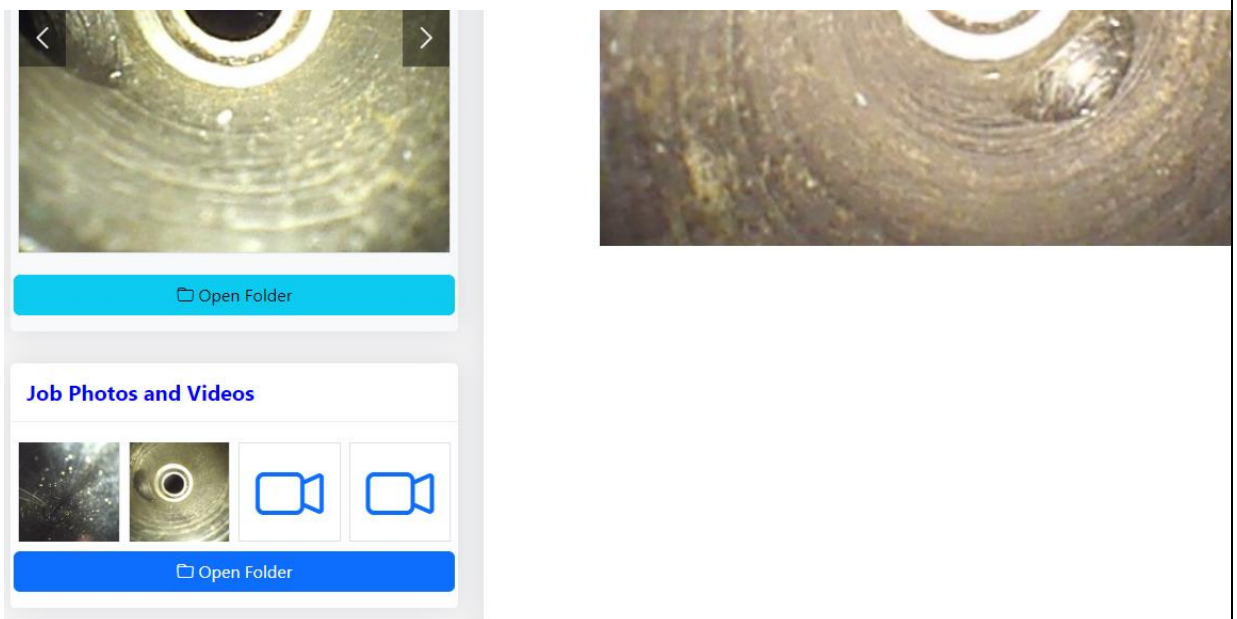

Figure 3
8. *Job Photos and Videos Section (Fig. 3)*: Directly clicking a photo or video will allow you to preview that photo or video.